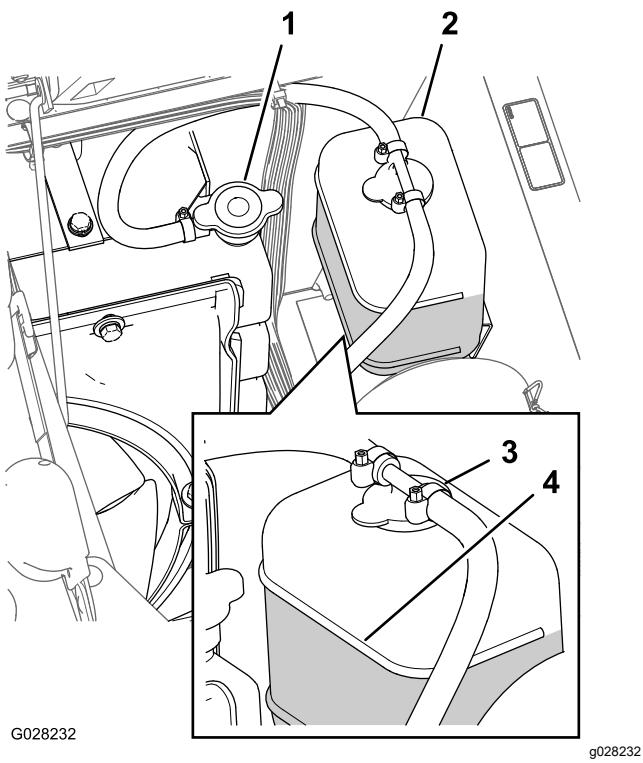

Figure 103
3. Carefully remove the radiator cap and the expansion-tank cap (Figure 103).
**Note:** The radiator should be filled to the top of the filler neck and the expansion tank filled to the Full mark on the tank (Figure 103).
5. If the coolant level is low, remove the expansion-tank cap and the radiator cap, and fill the expansion tank to the Full mark and the radiator to the top of the filler neck (Figure 103).
6. Install the radiator cap and the expansion-tank cap (Figure 103).
2. Wait until the engine is cool, then remove the radiator cap (Figure 103).
6. Remove the radiator cap (Figure 103).
8. Start the engine with the cap loose on the radiator (Figure 103).
10. Once the coolant has warmed up, top off the coolant level to the sealing surface of the cap and tighten the cap (Figure 103).
11. Open the expansion-tank cap and fill the tank with coolant to the Cold level (Figure 103).